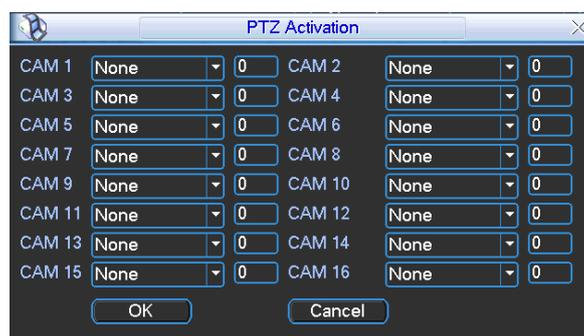
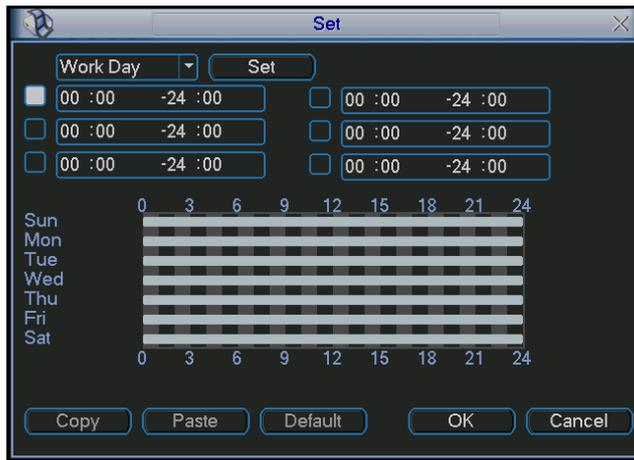

Figure 6-54
Figure 6-55
- ✧ In Figure 6-54, click “select” button, you can see an interface is shown as in Figure 6-55. Here you can set the activation operation such as preset tour, pattern and enable.